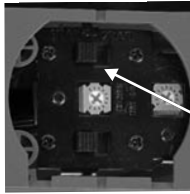

Figure 6: 2-Rail/ 3-Rail Switch
2. Change the power input from 3-Rail to 2-Rail as seen in figure 6 (*next page*).
To adjust the volume of all sounds made by this engine, turn the manual volume control (fig. 6) clockwise to increase the volume and counterclockwise to reduce the volume. Turning the manual volume control completely counterclockwise will turn off all of the engine sounds and announcements.